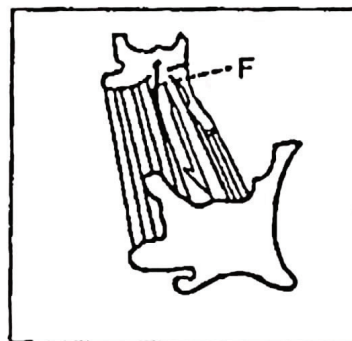
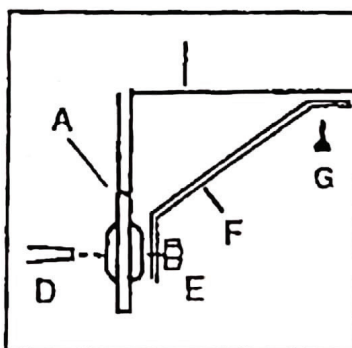

FIGURE 3
FIGURE 4
3. Turn the seat over. Attach the two side brackets(F)to the cast iron ends(A)using bolts (D), nuts(E), and wood screws(G) Refer to Fig.3 Fig. 4